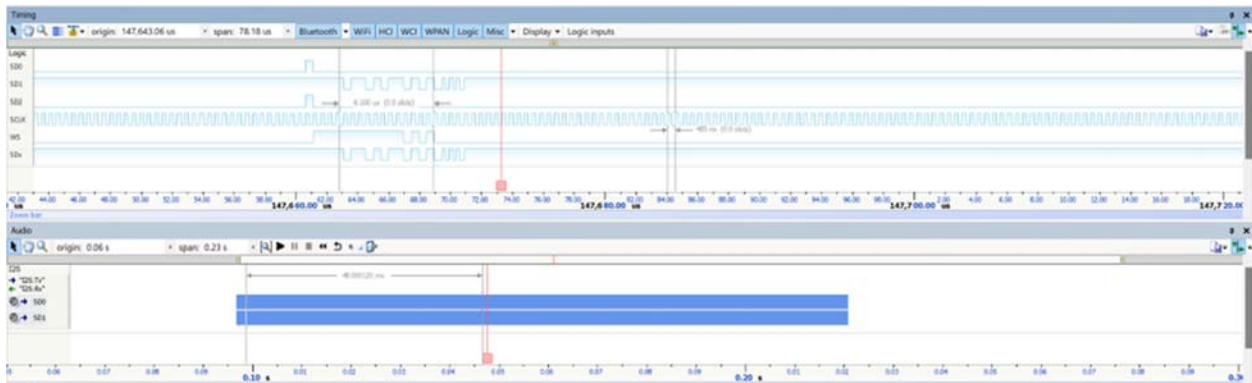

Figure 8 - Timing and Audio Views Showing Capture of Digital Audio Streams
In Figure 8, we see a typical capture of multiple I2S digital streams, along with the clock (SCK) and word select (WS) lines. Two synchronized views are shown: the Timing view and the Audio view. These streams may be natively digital (as captured using the Flying Leads probe), or they may be representations of captured analog audio from the Audio Grabber's 3.5 mm jack or its MIC inputs.